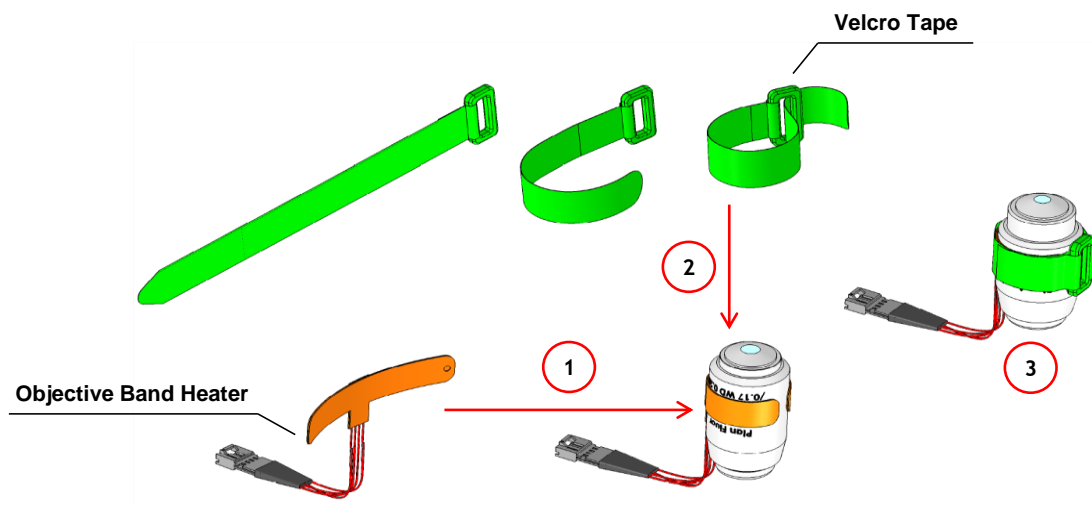

Figure 13. Objective Heater (OBJ-COLLAR #####) Assembly
If your system is also equipped with the Objective Heater, (OBJ-COLLAR ####, optional) its objective collar should be installed before connecting the heater to rear panel of the Temperature Control Unit. Follow the steps shown in Figure 13
- Place the orange colored Heating Band around the microscope Objective, cover it with the Velcro tape and fix the Velcro Tape as illustrated in Figure 13